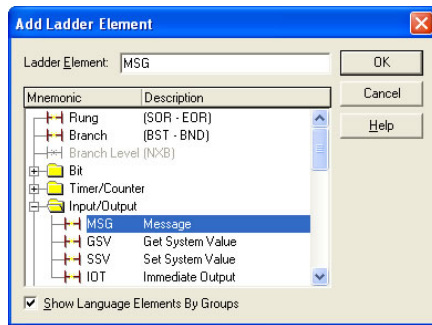

Figure 99: Adding a MSG Instruction
- d) Select the “MSG” instruction in the Input/Output folder. Refer to Figure 99.